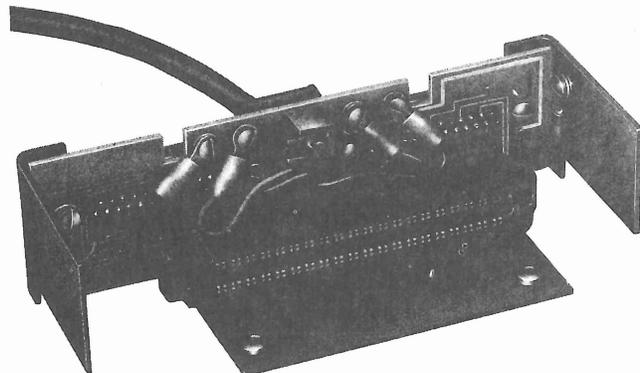

Fig. 4—Interface Assembly
2.07 The housing provided as part of list 2 is extruded aluminum with brushed finish. The front and rear covers are of molded plastic with the reverse side painted black. The circuit pack assembly plugs into an interface assembly (Fig. 4) which mounts in the rear of the housing.